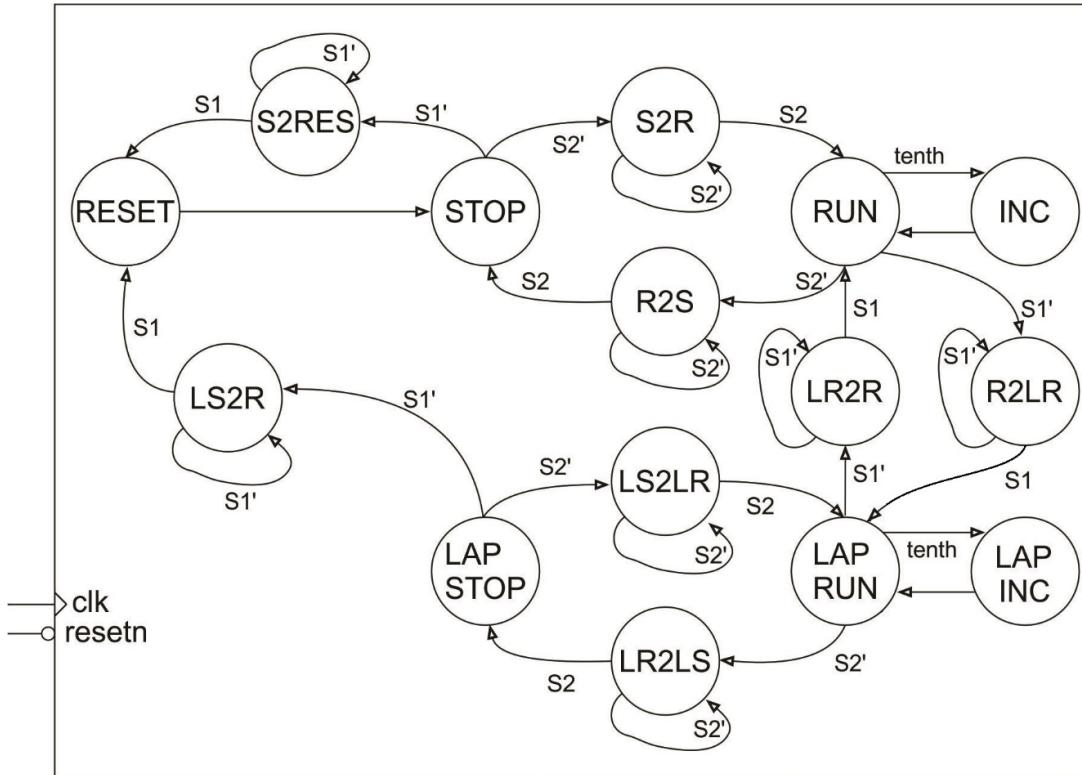
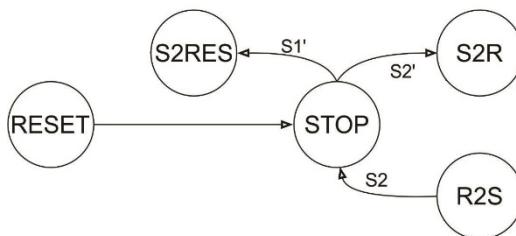
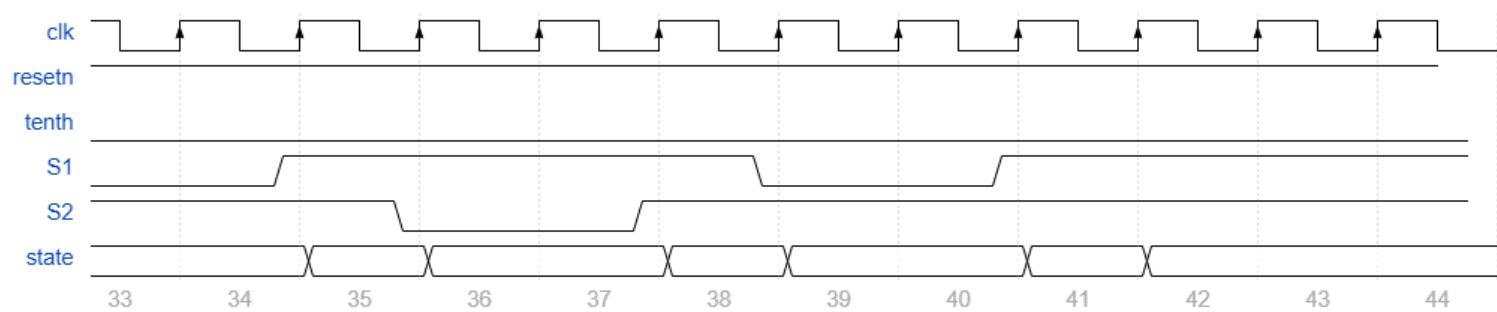

Figure 48: The control unit for the stopwatch needs to account for the time the user holds the button down.
Figure 50: All the states and with a transition arc connected to the STOP state.
Figure 51: Timing diagram for the testbench for the testbench simulation
The state diagram for the stopwatch is shown in Figure 48. The arcs between states are labeled with a Boolean condition, which when true, causes the FSM to make that transition. So for example, if the FSM is in the RUN state and the S2 button is pressed (buttons output 0 when pressed hence the arc labeled S2'), the FSM will transition to the R2S state (and stay there as long as the button is held down). When a number “2” appears in the middle of a state name, the number denotes the word “to” which is intended to mean moving from one state to another. The abbreviated names of the source/destination states are written on left/right side of the number “2” respectively. So for example, the state R2S stands for Run to Stop.
Table 41: Control word table for the stopwatch finite state machine shown in Figure 48.
- Next state logic – This is an always/case statement that has one case for each state. It embodies the logic in Figure 48 using if/then statements. Let's redraw Figure 48 by focusing on the states connected to the STOP state by transition arcs in Figure 50.
The next state logic for the STOP state embodies the 2 transition arcs leaving the STOP state in Figure 50. If the FSM is in the STOP state and the S1 input equals 1 then the FSM should go to the S2RES state. This logic and the transition to the state S2R is provided in the following code snippet. You must specify every possible next state, even when the next state does not change. Thus, I prefer to use a case statement and leave the default case to be when the next state is equal to the current state.
This lab will terminate with an extensive simulation of the stopwatch to uncover as many bugs as possible. Errors are much, much easier to find in a simulation. The goal of this simulation is to cover every transition arc in Figure 48 so that you can be sure your code is working correct.
The timing diagrams shown in Figure 51 show the tenths, S1 and S2 signals as they are manipulated by the testbench. These signals will affect the state of the control unit according to Figure 48. Your task is to use these signals to determine what the state the control unit is in.
The goal of the testbench was to cover every transition arc in Figure 48. This goal was not achieved; one transition arc was not taken in the testbench, which one was it?
Run the entire simulation and compare the simulation output to Figure 51. Use the results of the simulation to either correct Figure 51 or to correct your controlUnit.v code.
- Completed Figure 51.